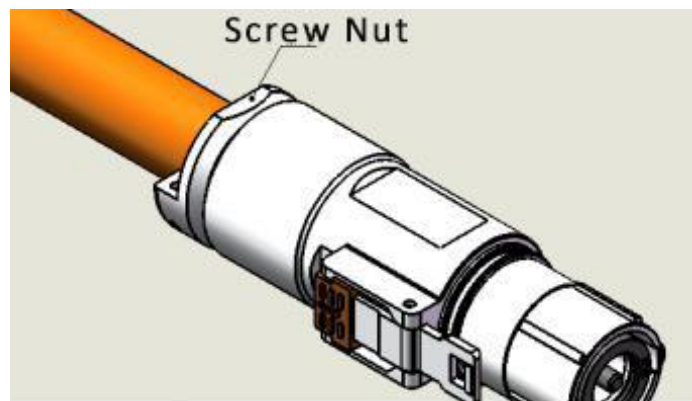

Fig. 12
4.1.6. The assembled cable is assembled with the plug shell, as shown in Fig.12.